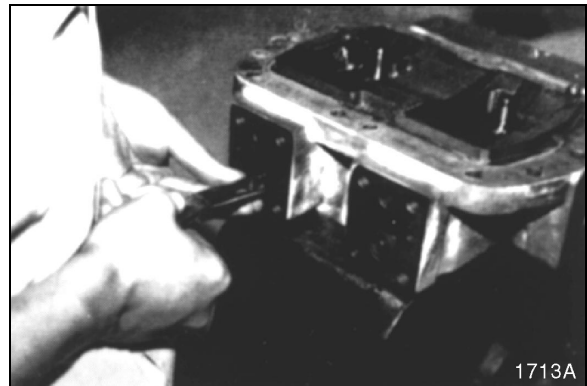

Figure 119
15. Install spring seat. Press seat down and install ring to rod groove. See Figure 119.